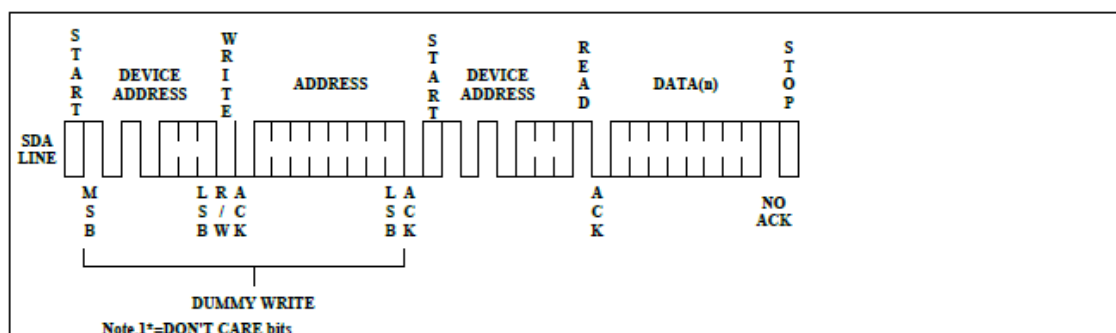

Figure7 Random Read
**RANDOM READ:** A random read requires a “dummy” byte write sequence to load in the data word address. Once the device address word and data word address are clocked in and acknowledged by the EEPROM, the microcontroller must generate another start condition. The microcontroller now initiates a Current Address Read by sending a device address with the read/write select bit high. The EEPROM acknowledges the device address and serially clocks out the data word. The microcontroller does not respond with a “0” but does generate a following stop condition (see Figure 7 ).